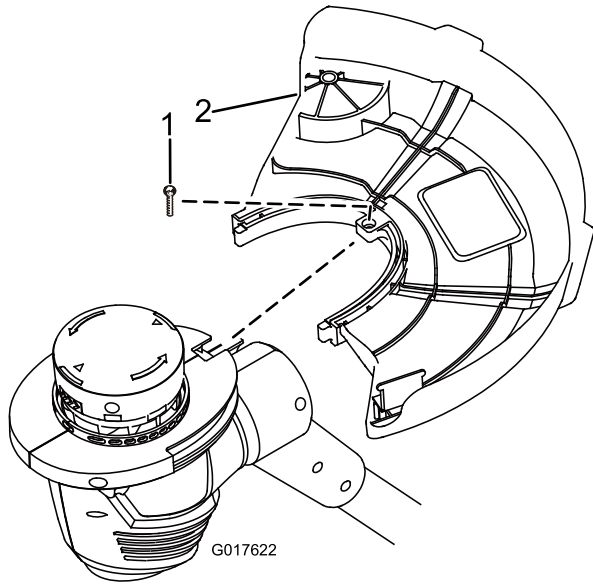

Figure 5
1. Remove the Phillips screw taped to the guard (Figure 5).
2. Slide the guard onto the trimmer base as shown in Figure 5.